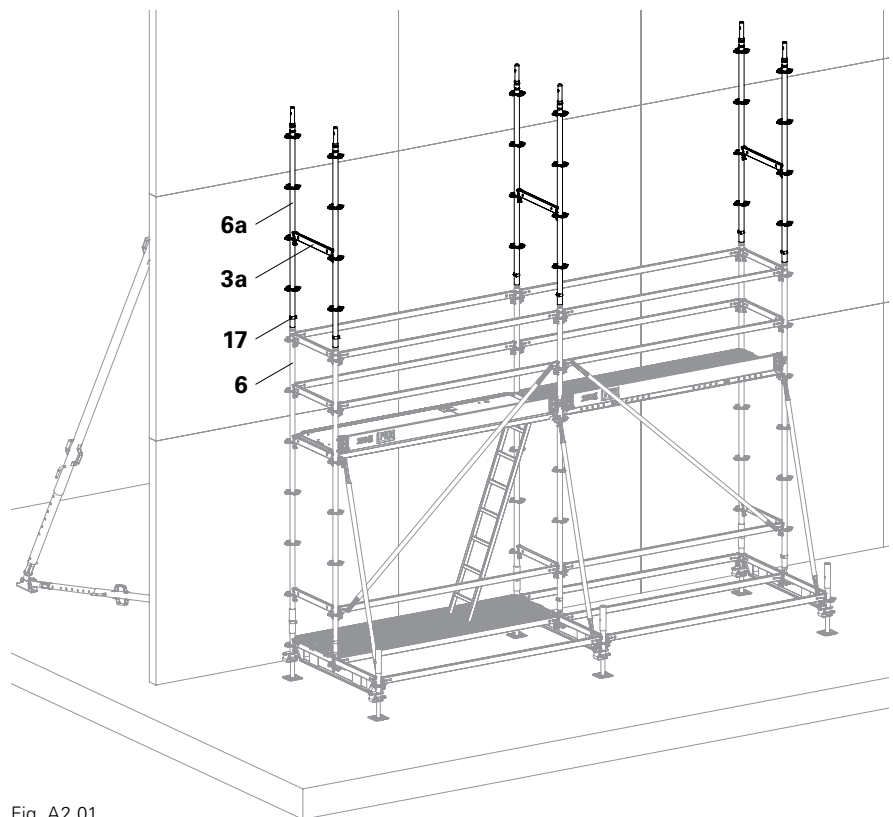

Fig. A2.01
2. Tightly connect Standards (6) (6a) by means of Locking Pins (17).
3. Attach Ledgers UH 75 (3a) and securely fix wedges. (Fig. A2.01)